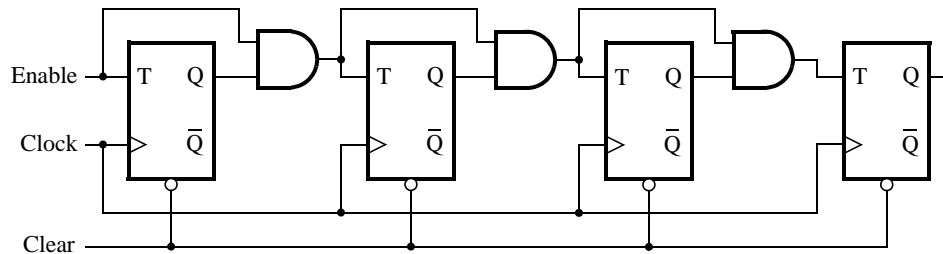

Figure 1: A 4-bit counter.
Consider the circuit in Figure 1. It is a 4-bit synchronous counter which uses four T-type flip-flops. The counter increments its value on each positive edge of the clock if the *Enable* signal is asserted. The counter is reset to 0 by setting the *Clear* signal low. You are to implement an 8-bit counter of this type.
1. Write a VHDL file that defines an 8-bit counter by using the structure depicted in Figure 1. Your code should include a T flip-flop module that is instantiated 8 times to create the counter. Compile the circuit. How many logic elements (LEs) are used to implement your circuit? What is the maximum frequency, F_{max} , at which your circuit can be operated?
5. Implement a 4-bit version of your circuit and use the Quartus II RTL Viewer to see how Quartus II software synthesized your circuit. What are the differences in comparison with Figure 1?